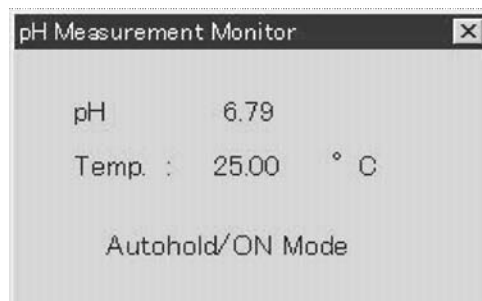

Figure 25: pH Measurement Monitor
2. If the "pH measurement monitor" on the "Display" menu is check marked, the monitor window as shown in Figure 25 is displayed.